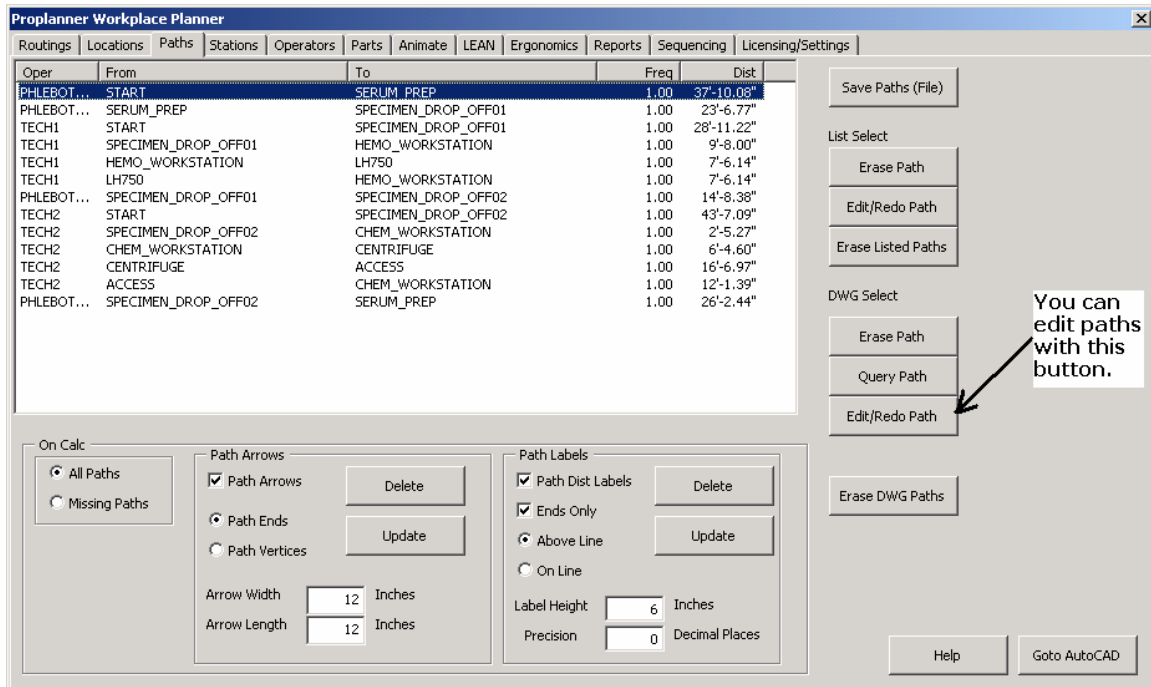

Figure 6
STEP 7: Most of the flow paths currently move through counters and walls. To replace this straight line flow path with one that moves around the counters and walls select the *Edit/Redo Path* button in the *DWG Select* section of the *Paths Tab*. (See Figure 6)